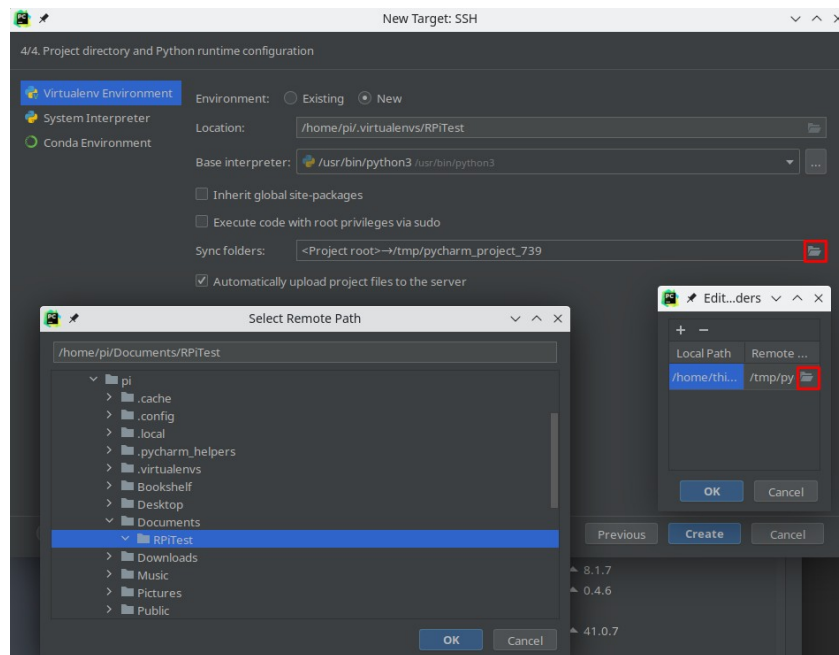

Figure 11: PyCharm SSH Interpreter Remote Environment and Deployment
7. Now that we set up the connection, a python environment on the RPi needs to be specified. Make a new virtual environment by selecting **New environment**. Set the **location** for the new virtual environment to `/home/pi/.virtualenvs/<Project Name>` and the **base interpreter** to `/usr/bin/python3`. These options define the location of your new virtual environment and what Python version to base itself off. The next option defines where the project files of your project will be uploaded to so they can be executed on the RPi. Open the **Sync folders** option by clicking on the folder icon next to the text. Change the **remote path** by clicking the folder icon and selecting a folder on the RPi. We suggest creating and selecting the folder `/home/pi/Documents/<Project Name>` for this project. All this specifies that we want to make a new Python virtual environment based on the version located at `/usr/bin/python3` and we want to store it at `/home/pi/.virtualenvs/<Project Name>`. We want to copy the local project files to the folder `/home/pi/Documents/<Project Name>` when executing them remotely. See Figure 11. Click "**Create**" to use these new settings.